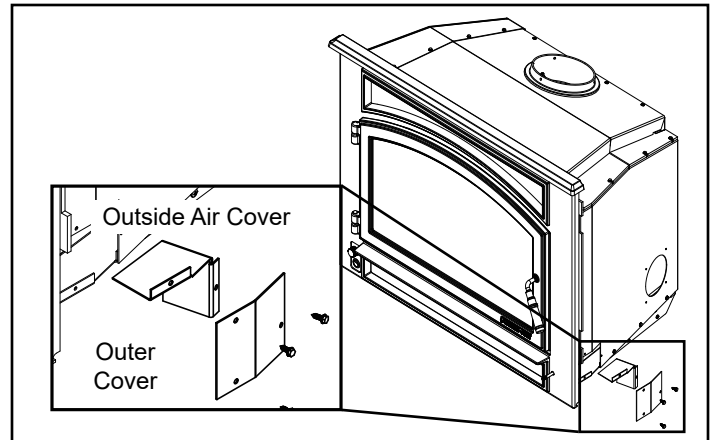

Figure 5.1
2. Remove screws holding outer cover in place . Place outside air cover in channel as shown (outside air cover is located in component pack). re-install outer cover. (Figure 5.1)